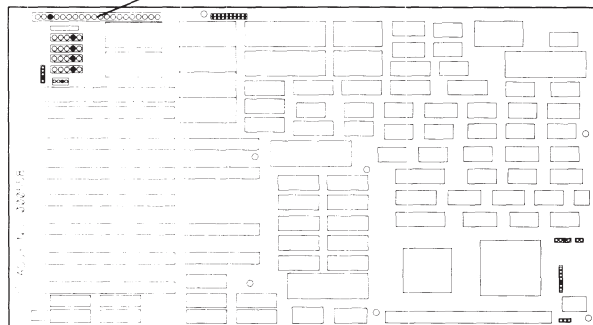

Figure 7-14. Location of the Power Supply Connector on the System Board.
5. Shift the power supply slightly away from the system board to locate the power supply connector on the system board (Figure 7-14).